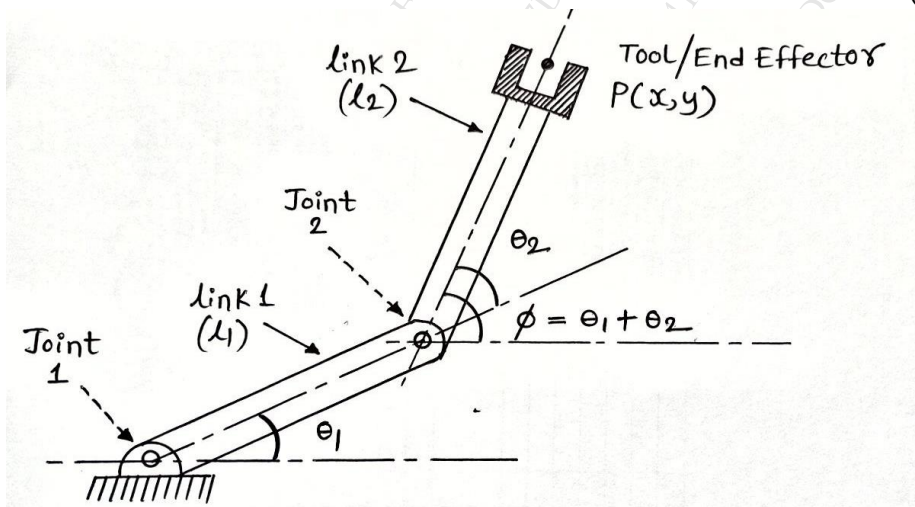

Fig. 4.1 – Planar 2 axes robotic manipulator arm for Q.4 (a)
- Q. 4 (a) Develop the direct kinematics solution for 2 axis planar robot as shown in Fig. 4.1 below in order to compute the tool/end effector position (P) given as  $P(x, y)$  :- (10 Marks)